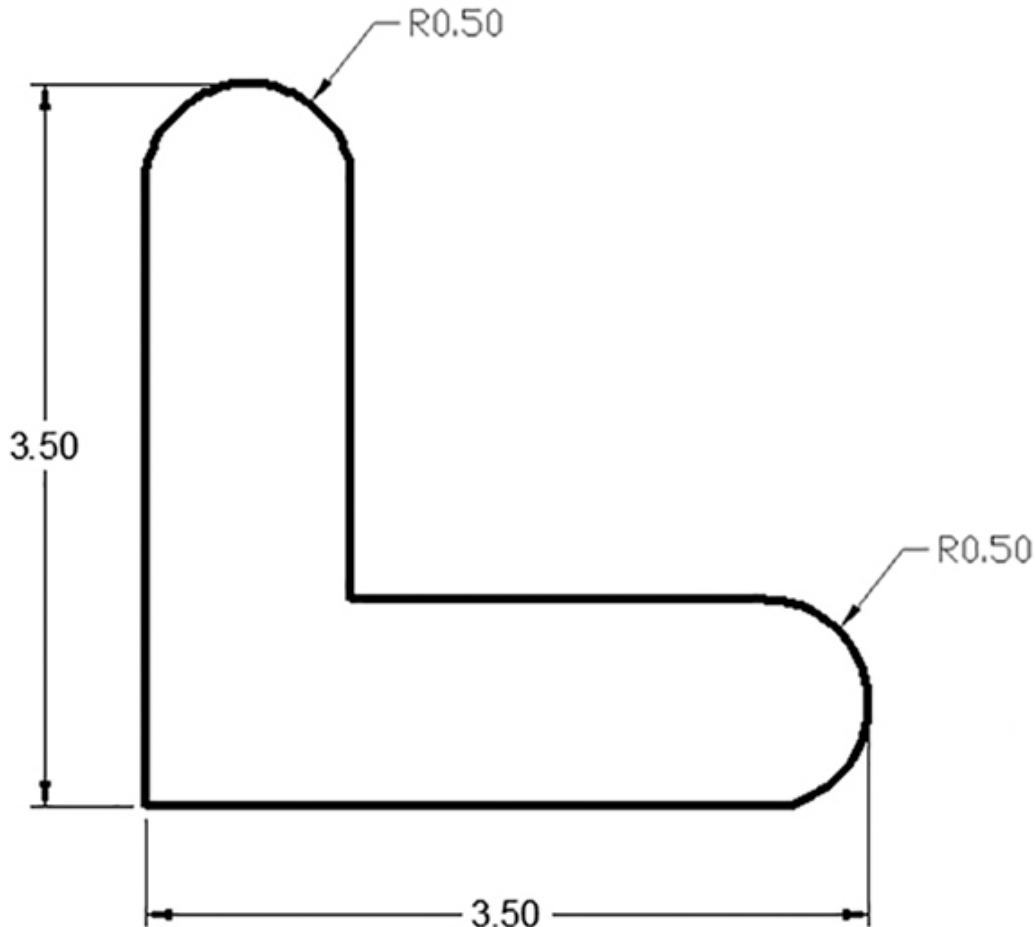

Figure 9-40
- 2 Create the drawing shown in Figure 9-40 using only the **LINE** and **ARC** commands, making sure to connect all the line and arc segments.